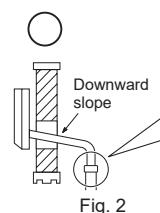

Fig. 2
- 5) Attach conduit pipe (for rear piping) / elbow joint (for right, left, or downward piping) to conduit plate with lock nut. The thread of the installed conduit pipe / elbow joint appearing inside should be less than 3/8 in. (10 mm). (Fig. 1) Elbow joint should appear less than 1-3/16 in. (30 mm) outside. (Fig. 2)
- Pull out the drain hose at the back left of the indoor unit. (Fig. 2)
- The drain hose should point downward for easy drain. (Fig. 2)